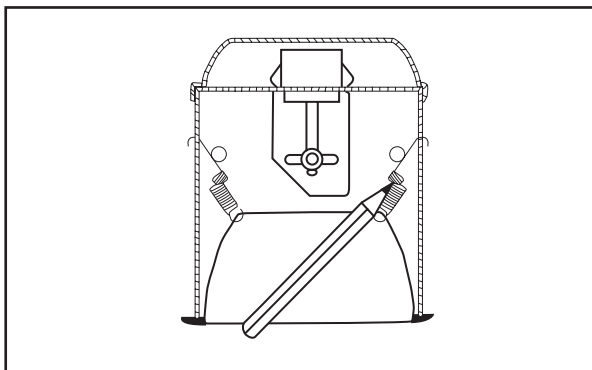

Figure 1.
1. Position trim in place. (Figure 1.)
1. Positionnez la garniture en place. (Figure 1.)